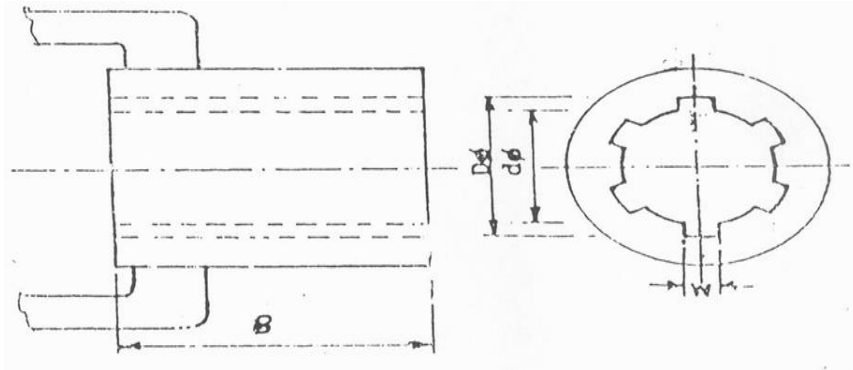

Fig. 3: PROPELLER SHAFT INSERT DIMENSIONS, (mm)
7.4	Propeller shaft insert dimension (Refer Fig.3):